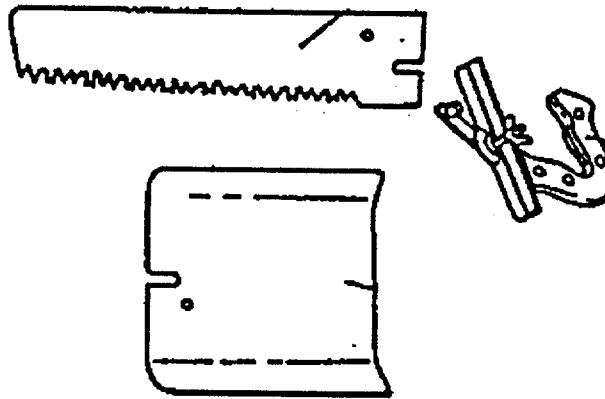

Figure 2-61. Knife, Saw, Shovel Assembly
- am. Knife, Saw, Shovel Assembly. The assembly (See Figure 2-61) is used in survival conditions for sawing wood, skinning game, self-defense, and making survival shelters from the materials at hand, including snow and ice.